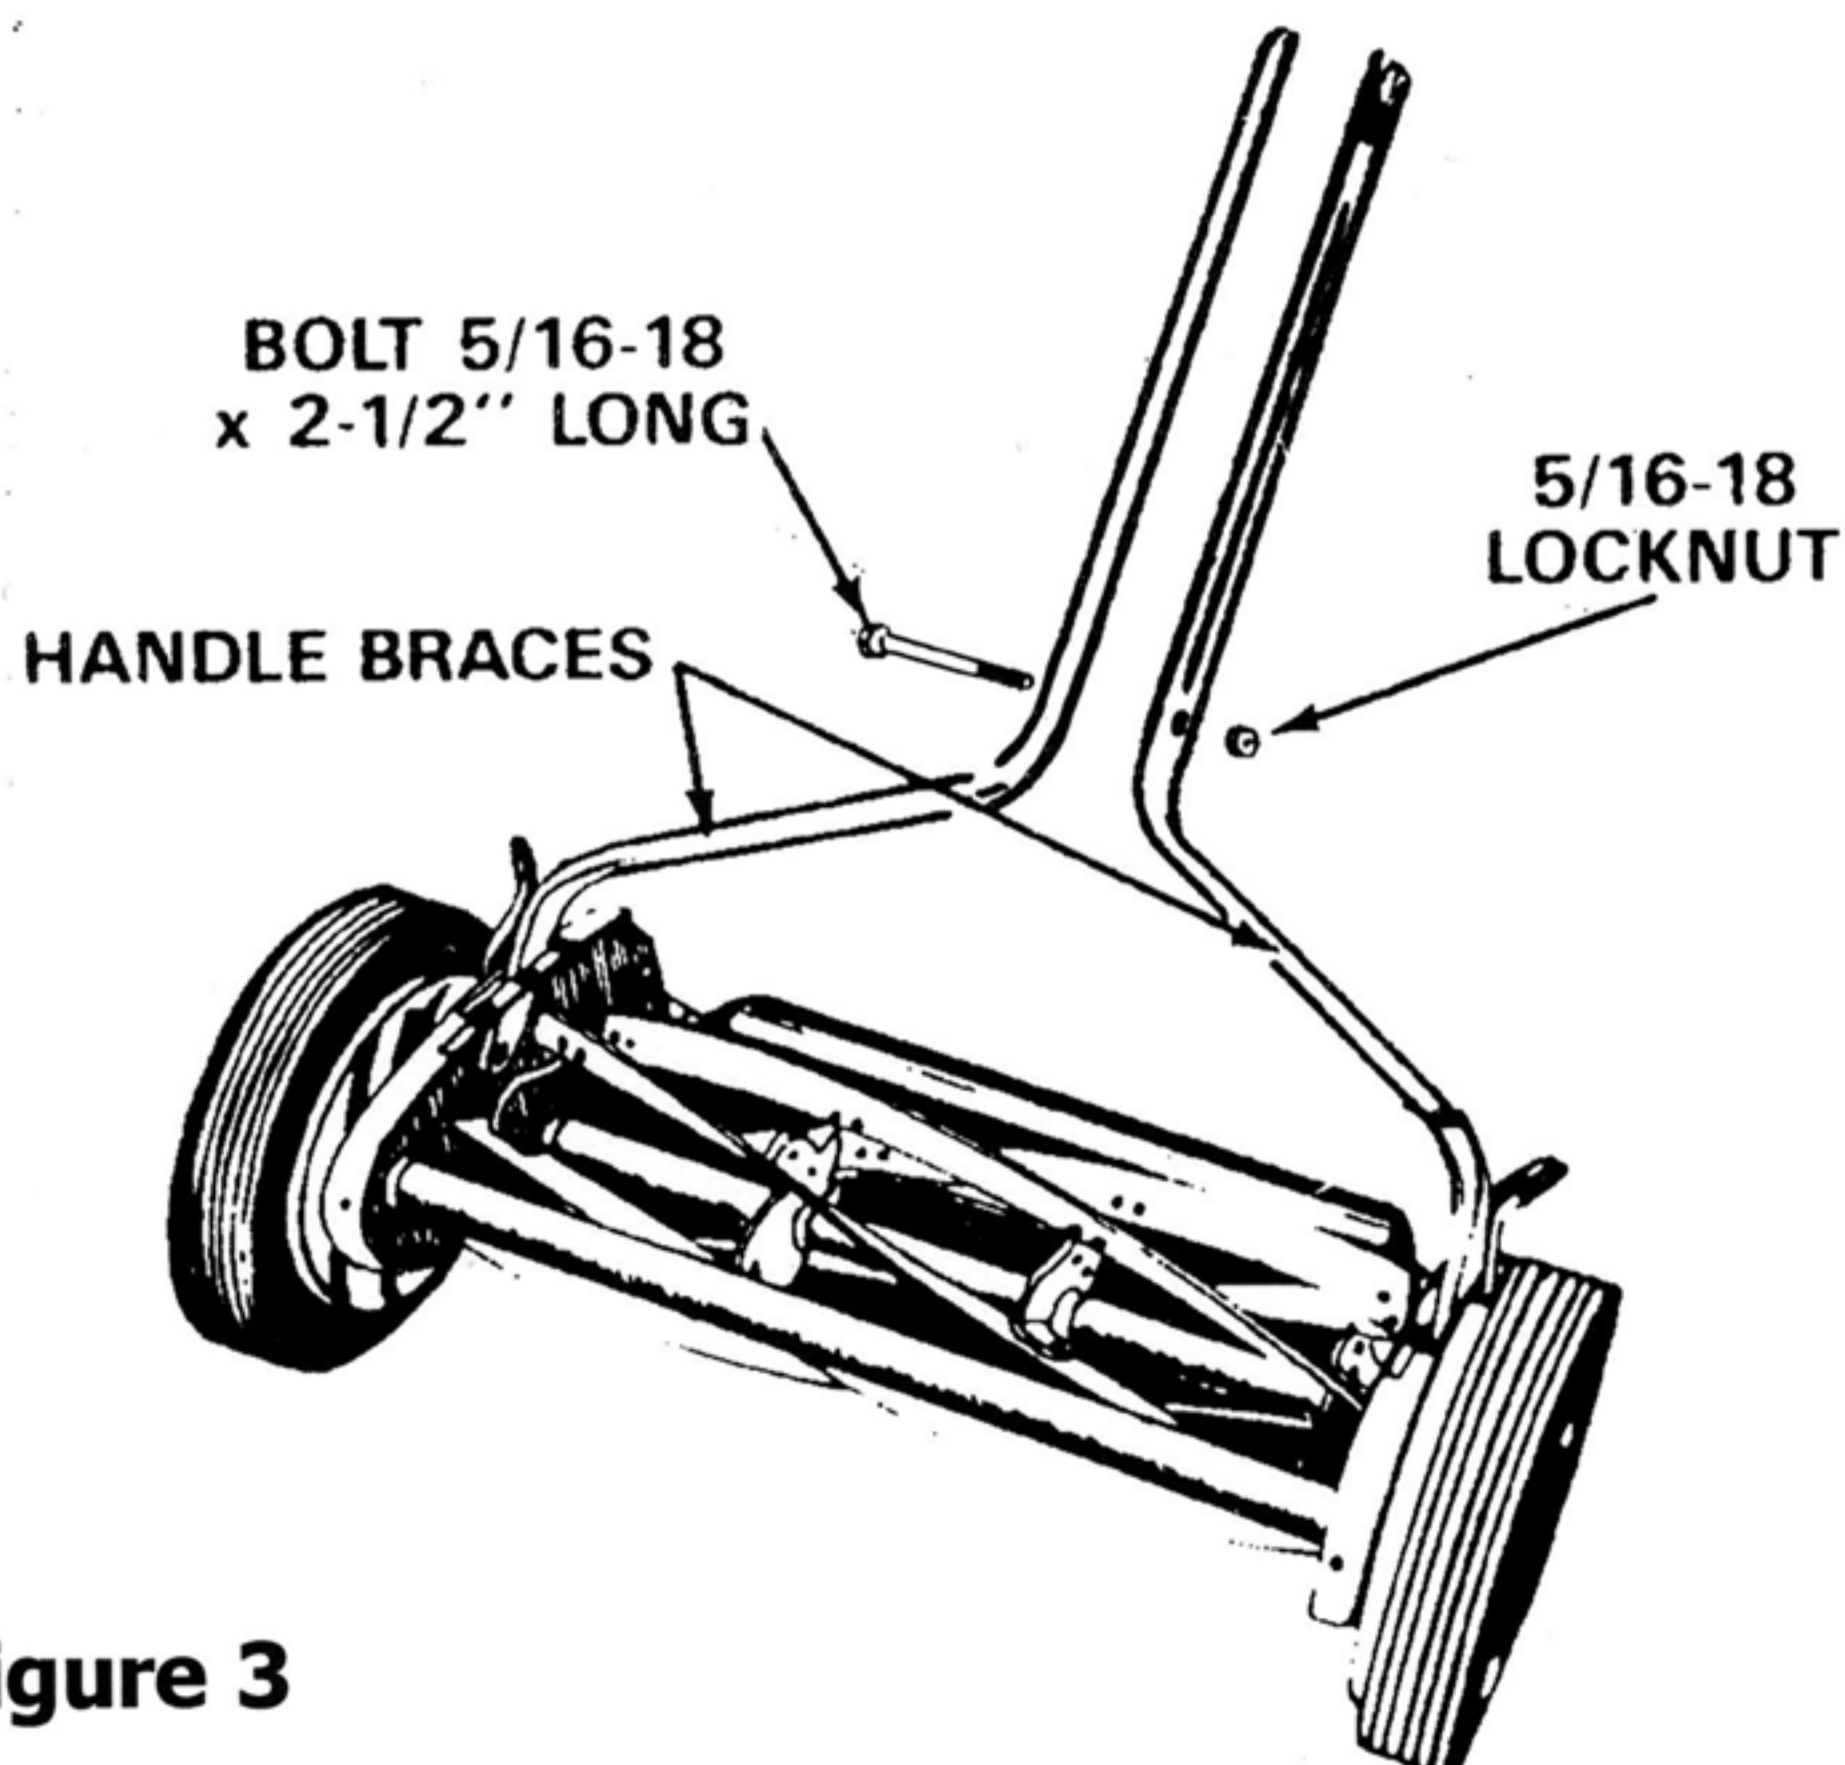

Figure 3
6. Tighten all four handle bolts and nuts as shown in figures 3 and 4.